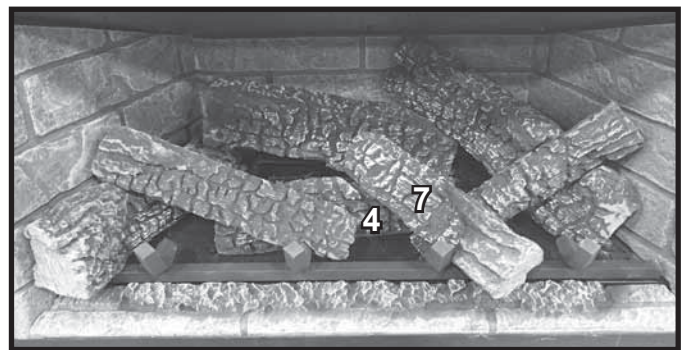

Figure 10. Log #7 Installed
**LOG #7:** Locate the bark to burnout transition on Log #7. Place transition over grate tine and burnout end of log in notch of Log #4. See Figure 10.